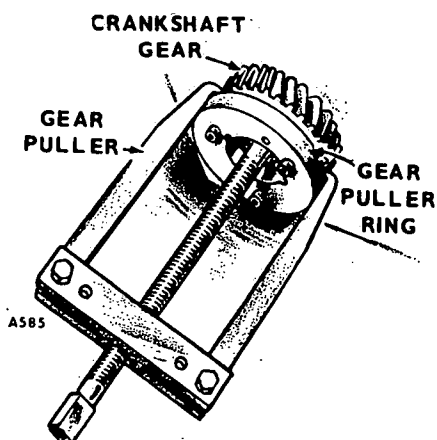

FIGURE 53. REMOVING CRANKSHAFT GEAR
2. Pull off the crankshaft gear. See Figure 53. It has 2-1/4-20 UNC tapped holes for attaching a gear pulling ring. Use care not to damage teeth if the gear is to be reused.